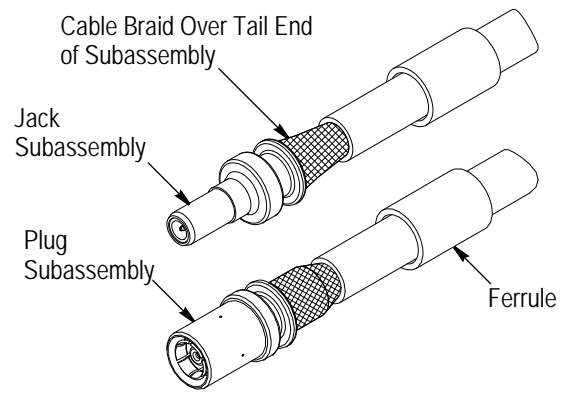

Figure 3
3. Position the cable braid over the tail end of the subassembly. Refer to Figure 3.